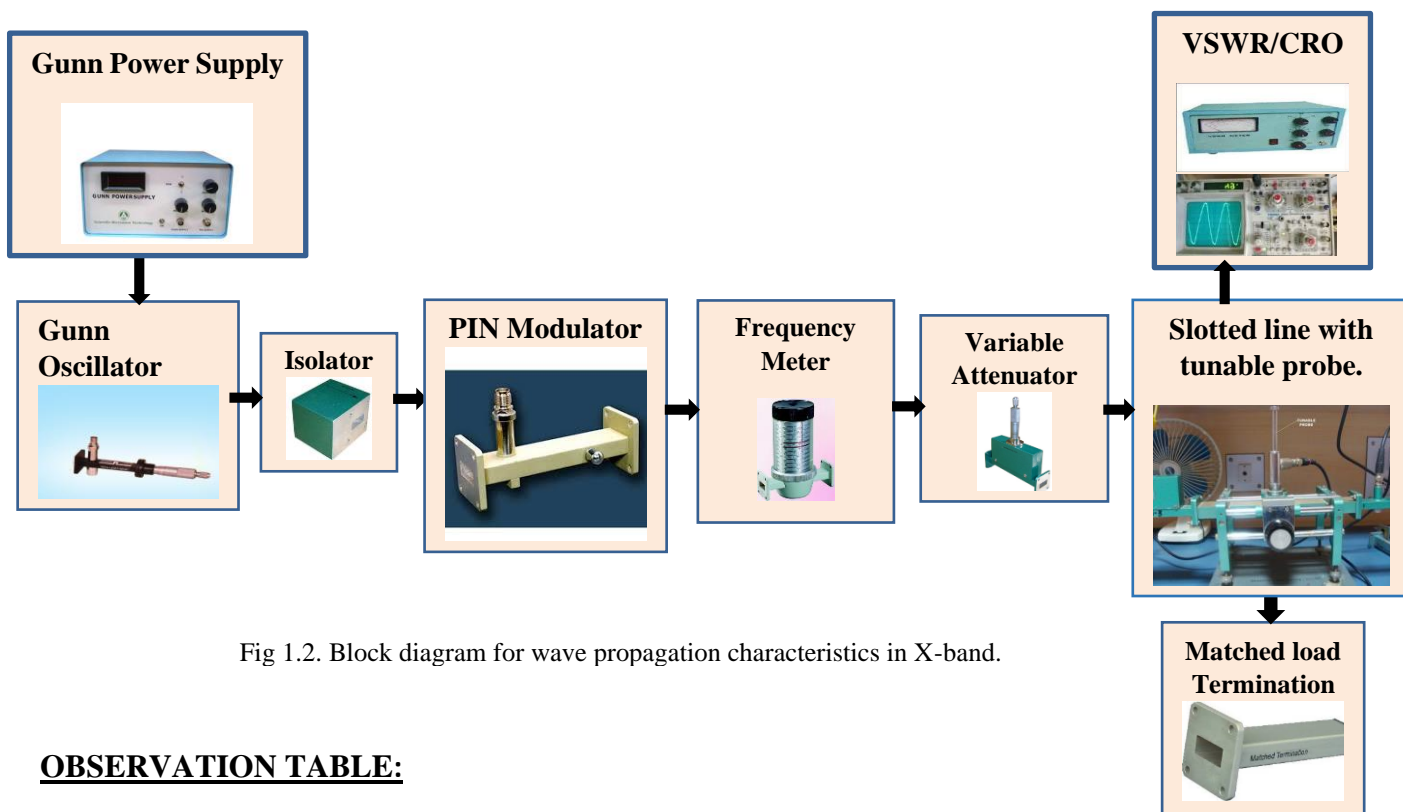

Fig 1.2. Block diagram for wave propagation characteristics in X-band.
1. Again check the connections as shown in Fig 1.2.